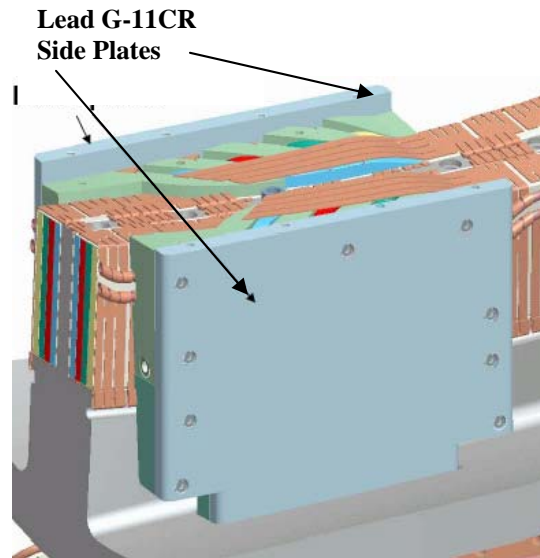

Figure 47- Lead Area Side Plates
- 6.45.3 Re-install the chill plate/side plate assembly and secure in place with the appropriate hardware. Repeat the assembly process for both sides "A" and "B". [Figure 47- Lead Area Side Plates] Seal all seams with RTV-108.